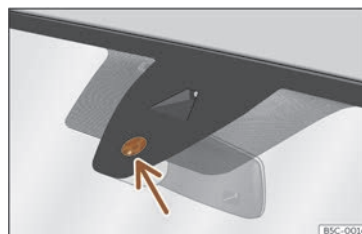

Fig. 99 Rain sensor sensitive surface
Possible causes of faults and mistaken readings on the sensitive surface»» Fig. 99 of the rain sensor include:
- Regularly clean the sensitive surface of the rain sensor»» Fig. 99 (arrow) and check for possible damage to the wiper blades.